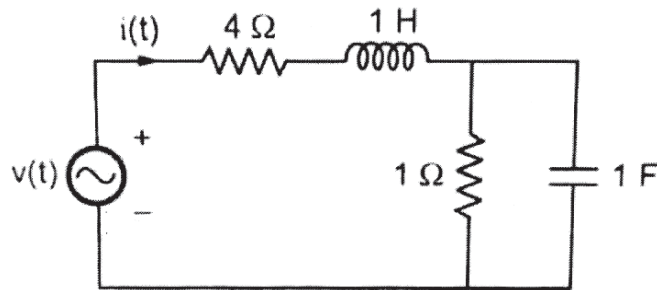

Fig. No. 5
- b) Obtain the pole zero plot of transform impedance for the network shown in fig. no.5. [9]